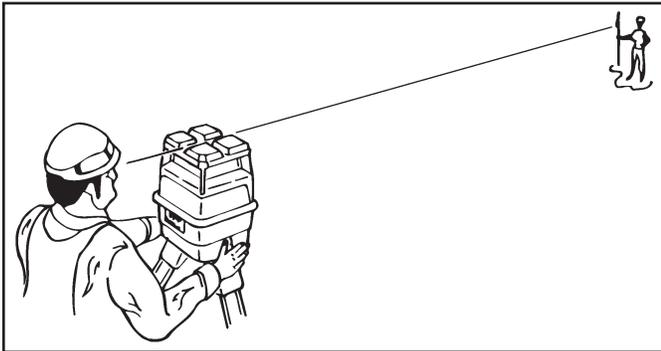

Figure 26. Sight Over Rotating Laser
- Roughly align one of the axis to the grade stakes by sighting over the top of the Rotating Laser (Refer to Figure 26).
4. Roughly align one of the axis to the grade stakes by sighting over the top of the Rotating Laser (Refer to Figure 26).